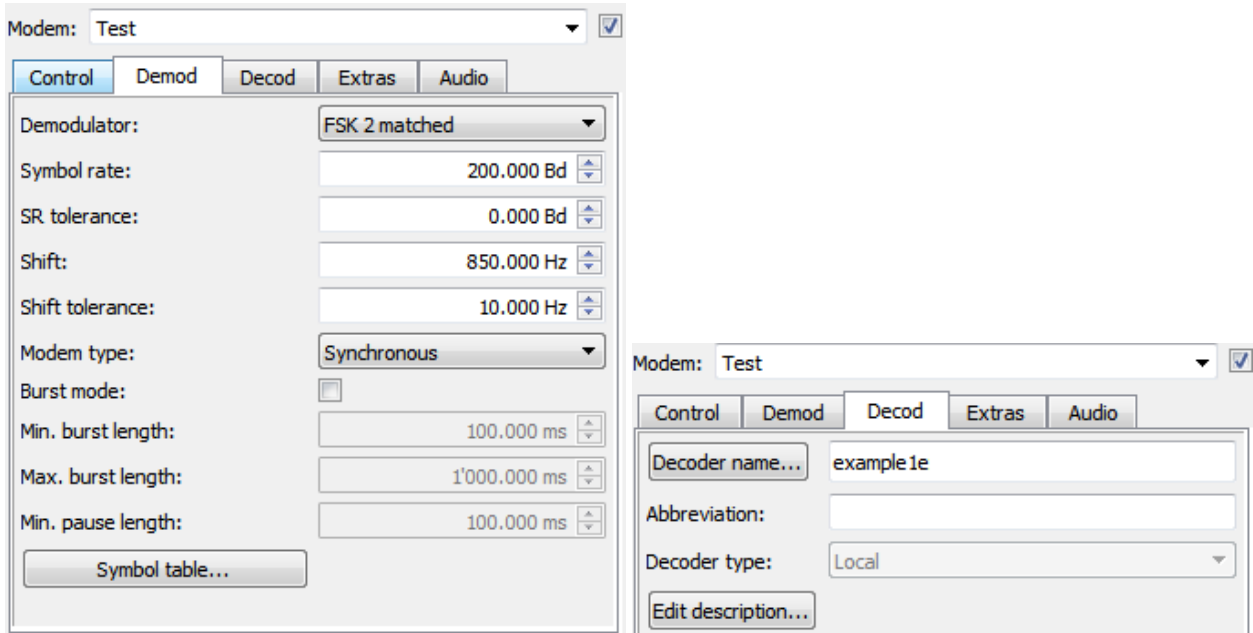

Figure 35: Demodulator/Decoder Settings
- Create a modem (named “Test”) in this modem list using the settings shown in Figure 35